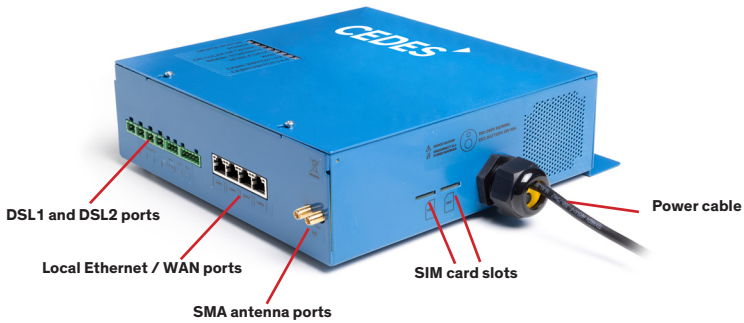

Figure 34: EComgard connections
- ▶ Ensure that at least one SIM card is inserted properly into the EComgard SIM card slot 1 (see Figure 34 for SIM card slot location).